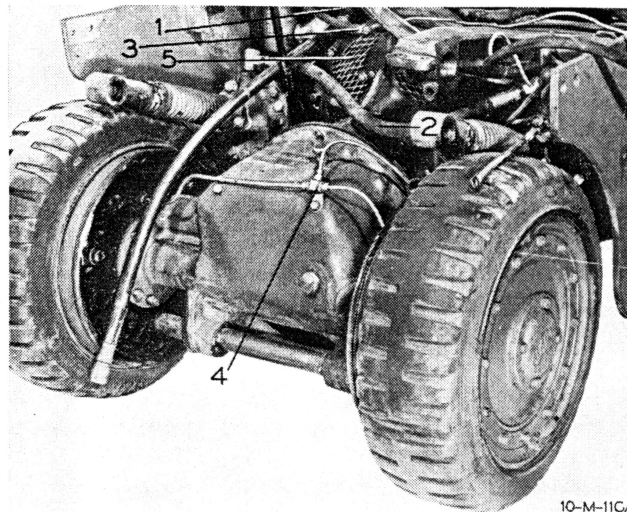

Fig. 10
4. Disconnect brake line at Tee. Fig. 10, Ref. 4.